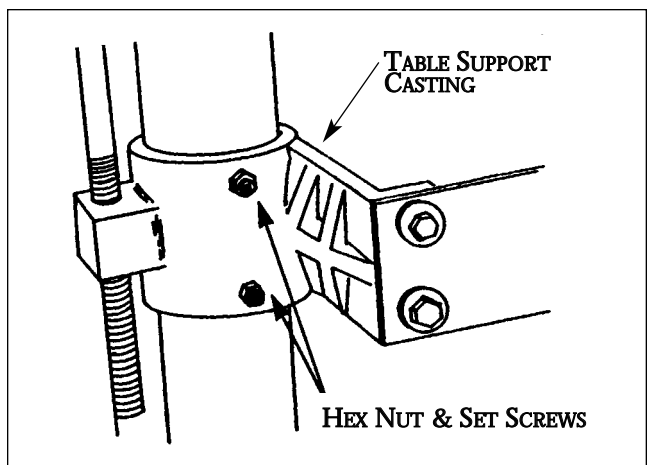
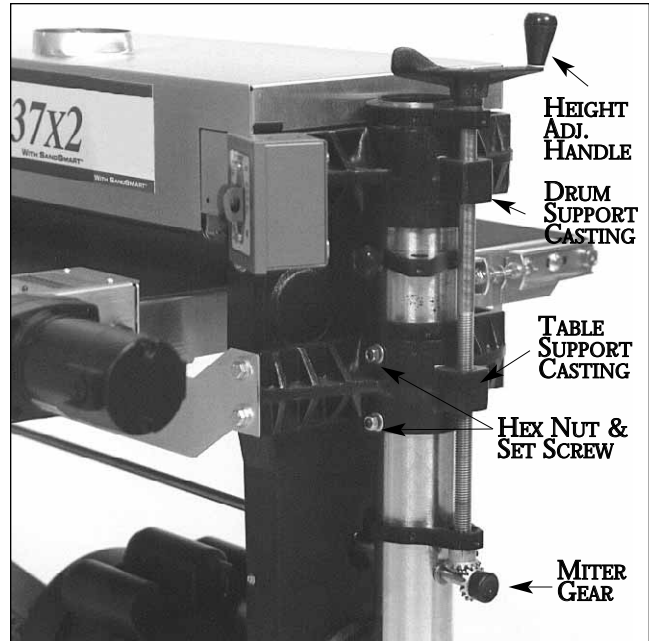

Fig. 3. Table support casting and set screws.
Fig. 11. Table height adjustment mechanism.
2. Loosen the hex nut and set screws on the table support castings (Fig. 3). The set screws on the table support castings have been tightened at the factory to eliminate free-play between the table support casting and the column tube during shipment. There are two table support castings on the SUPERMAX, one each for the right and left column tubes. Important: These set screws are tightened for shipping and must be loosened and readjusted before operating either the height adjustment mechanism or the conveyor drive.
The table height and depth of cut is controlled by the height adjustment handle (see Fig. 11). Turning the handle raises or lowers both sides of the table simultaneously by transferring the handle rotation through the miter gear and cross bar assembly.
Important: Before using the height adjustment, be sure to loosen both the set screws located on the front of both table support castings (see Fig. 3 and Fig. 11) to allow the table support to slide on both column tubes. These set screws are tightened for shipping and must be loosened and readjusted to allow the table support castings to move freely on
the column support tubes. Readjust the set screws just so they eliminate free-play between the table support casting and the column tube. To properly adjust, tighten the set screws (see Fig. 3) only finger-tight so they lightly touch the column tubes. Then hold each set screw in position with an Allen wrench and tighten the hex nut.